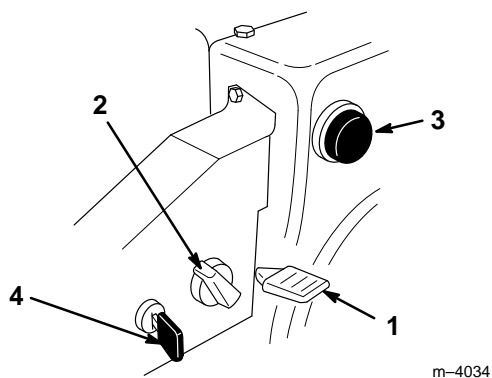

Figure 16
- **Ignition Switch** (Fig. 16)—Insert the key before starting the engine. To stop the engine, remove the key.
- **Throttle** (Fig. 16)—Move the throttle upward to increase engine speed and downward to decrease engine speed.
- **Choke** (Fig. 16)—Rotate the choke to the Full choke position to start a cold engine. As engine warms up, move the choke gradually to the Off position.
- **Primer** (Fig. 16)—Press the primer to pump a small amount of gasoline into the engine for improved cold weather starting.
1. Pull the choke knob off of the choke rod (Fig. 16).
1. Move the throttle (Fig. 16) to the Fast position.
3. Rotate the choke (Fig. 16) to full choke position.
5. Insert the ignition key (Fig. 16).
8. After the engine starts, immediately rotate the choke (Fig. 16) to the 3/4 position.
2. Move the throttle to slow and remove the ignition key (Fig. 16).